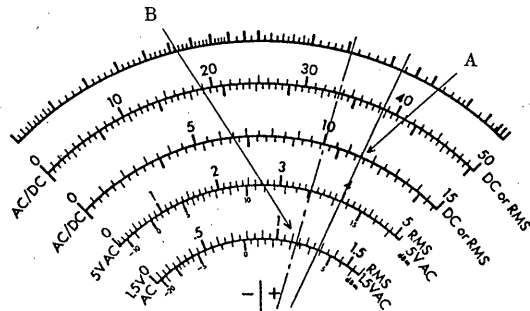

Fig. 3-13
- (1) A signal voltage across 600Ω load is measured in the 1.5V range, and meter indication is obtained as arrow B on alternate long and short dash line shown in Fig. 3-13. In this example, +3.45 dBm is directly obtained from the dBm scale below the 1.5V scale. When dBm value lower than +16 dBm is measured, indicated value with red
- (2) Output of an amplifier terminated with 600Ω load is measured. In this example, meter indication is obtained as arrow A on continuous line shown in Fig. 3-13 in the 15V range. Since no dBm scale is provided below the 15V scale, the dBm scale below the AC 1.5V scale is utilized as following procedure. In indication corresponding with 11.5V on the AC 15V scale is obtained on the 1.5V scale. Value indicated by arrow B on the dBm scale below the 1.5V scale is added to additive value in Table 3-4, and $+3.45 \text{ dBm} + 20 \text{ dBm} = +23.45 \text{ dBm}$ is obtained with mental arithmetic. When the dBm value in the upper ranges than 15V range is measured, the dBm value is calculated from the dBm value of the 1.5V or 5V scale corresponding with the RMS value indicated. 20 dBm, 40 dBm or 60 dBm obtained from Table 3-4 is added to the above dBm value.